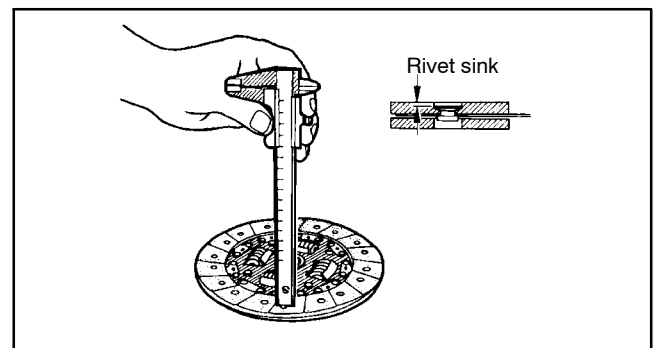

Figure 24
8. Measure rivet sink and replace clutch disk if out of specification (Fig. 24).